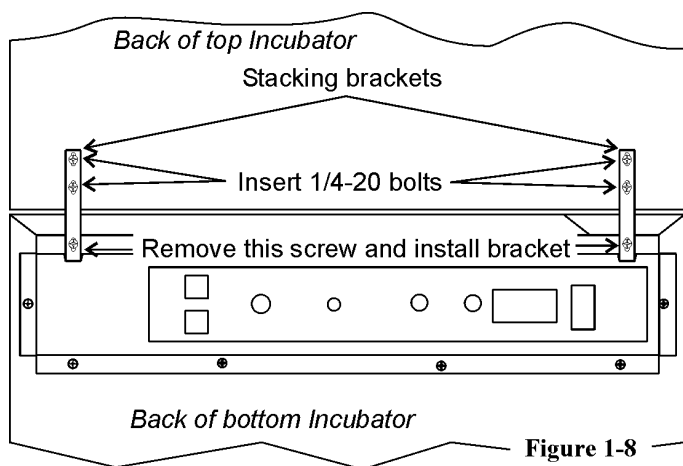

Figure 1-8
6. Remove and save the two screws from the back of the control panel on the bottom unit as identified in Figure 1-8.